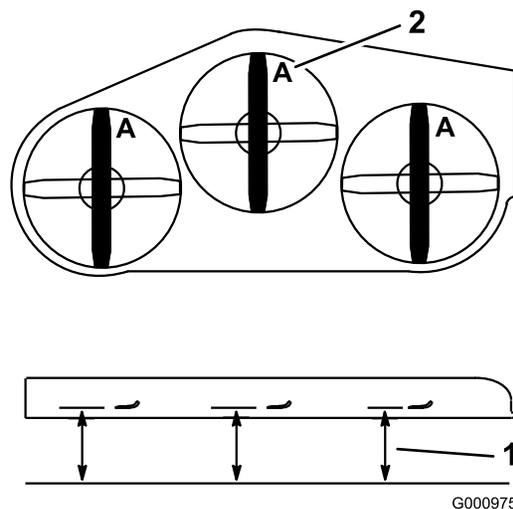

Figure 81
2. Measure from a level surface to the cutting edge, position A, of the blades (Figure 81).